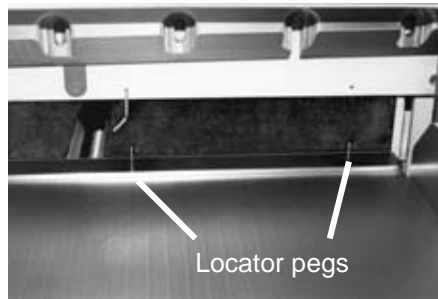

Figure 21
- Position the false clamp plate under the clamp, (Figure 21). The locator pegs are positioned to the rear of the cutter and are set into holes in the bottom of the clamp.